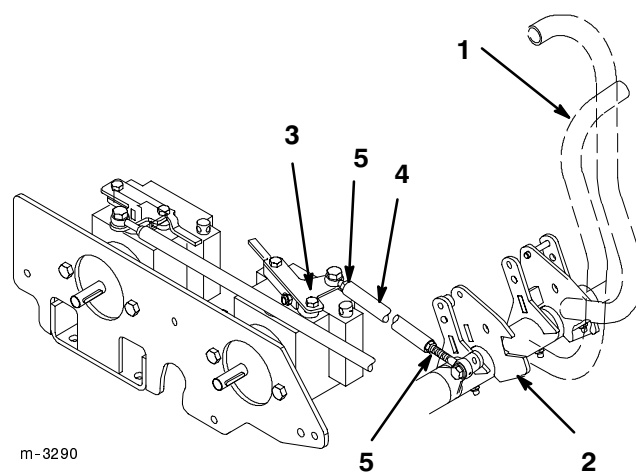

Figure 81
1. Loosen jam nuts on pump control rod (Fig. 81).
2. Push and firmly hold motion control lever against forward stop (Fig. 81).
3. Rotate pump control rod until pump control plate is in the full forward position (Fig. 81). Motion control lever will lift off forward stop.
4. Rotate control rod 1 turn, to lengthen rod, and tighten jam nuts (Fig. 81).